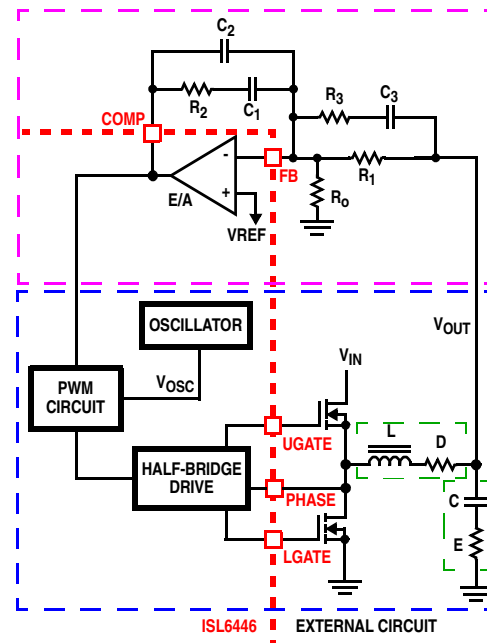

FIGURE 26. VOLTAGE-MODE BUCK CONVERTER COMPENSATION DESIGN
Figure 26 highlights the voltage-mode control loop for a synchronous-rectified buck converter, applicable to the ISL6446 circuit. The output voltage (V_{OUT}) is regulated to the reference voltage, V_{REF} . The error amplifier output (COMP pin voltage) is compared with the oscillator (OSC) modified sawtooth wave to provide a pulse-width modulated wave with an amplitude of V_{IN} at the PHASE node. The PWM wave is smoothed by the output filter (L and C). The output filter capacitor bank’s equivalent series resistance is represented by the series resistor E.
The compensation network consists of the error amplifier (internal to the ISL6446) and the external R_1 through R_3 , C_1 through C_3 components. The goal of the compensation network is to provide a closed loop transfer function with high 0dB crossing frequency (F_0 ; typically 0.1 to 0.3 of f_{SW}) and adequate phase margin (better than 45°). Phase margin is the difference between the closed loop phase at F_{0dB} and 180° . The equations that follow relate the compensation network's poles, zeros and gain to the components (R_1 , R_2 , R_3 , C_1 , C_2 , and C_3) in Figure 26. Use the following guidelines for locating the poles and zeros of the compensation network:
1. Select a value for R_1 (1k Ω to 5k Ω , typically). Calculate the value for R_2 for desired converter bandwidth (F_0). If setting the output voltage via an offset resistor connected to the FB pin, R_0 in Figure 26, the design procedure can be followed as presented in Equation 13.